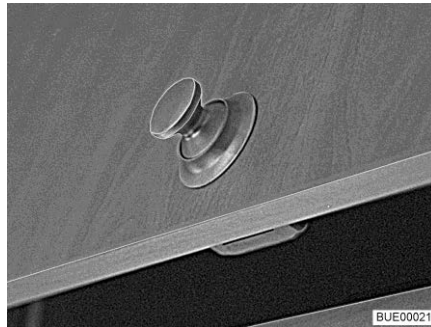
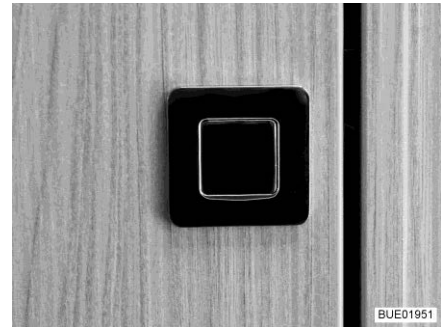

Fig. 67 Furniture flap with push button (round) (round)
Fig. 68 Furniture flap with push button (square)
- Press inner part of the lock. The push button (Fig. 67 or Fig. 68) jumps out.